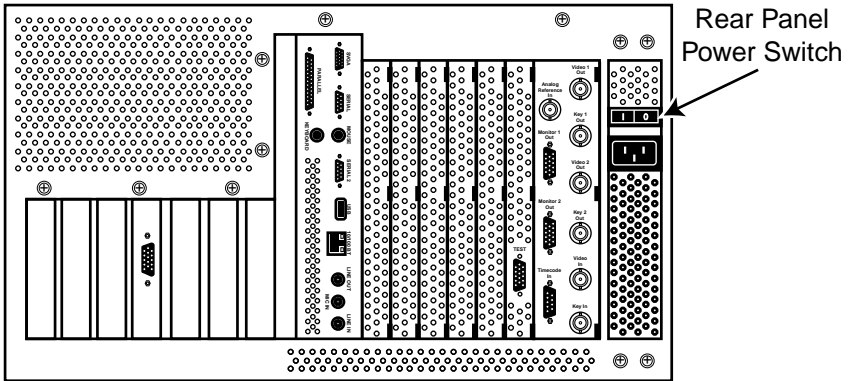

Figure 2-12. Rear Panel Power Switch Location
- [] 8. Highlight **TCP/IP** in the **Protocols** list, then click **Properties**. The **Microsoft TCP/IP Properties** window (Figure 2-12 - shown with addresses already entered) is displayed.